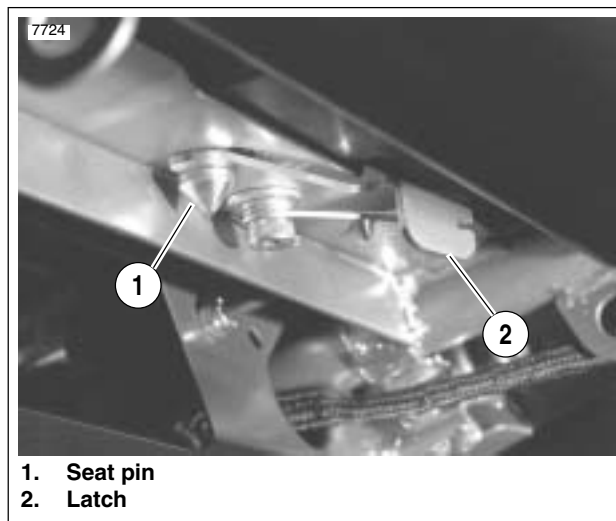

Figure 4-1. Remove Seat
1. See Figure 4-1. Remove seat.
7. See Figure 4-1. Install seat.